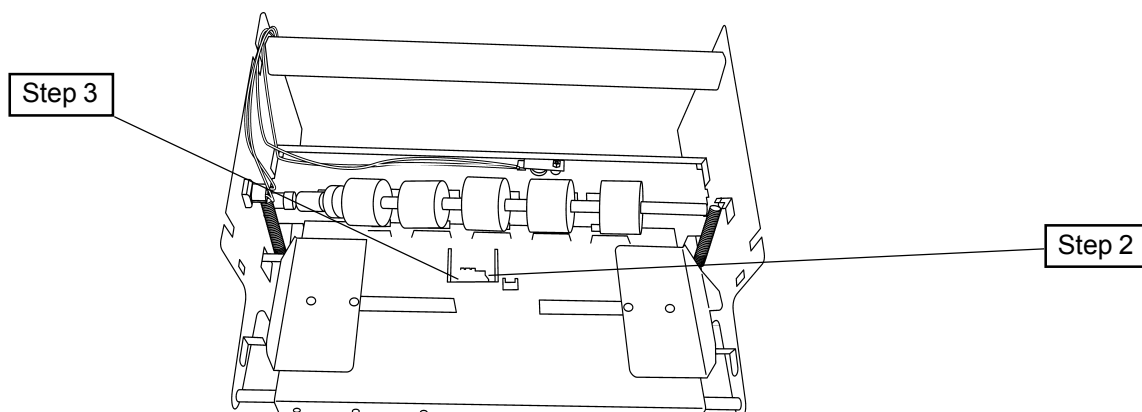

Figure 1
3. Disconnect the sensor connector according to figure 1.